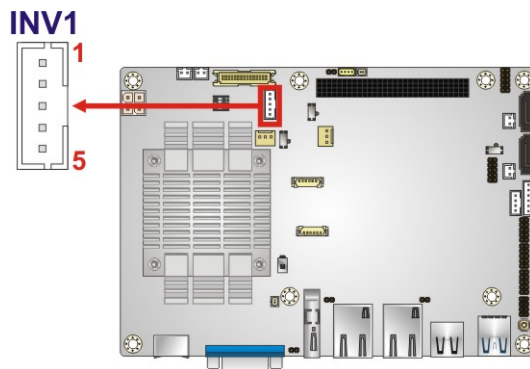

Figure 3-6: Backlight Inverter Connector Location
- CN Location:** See Figure 3-6